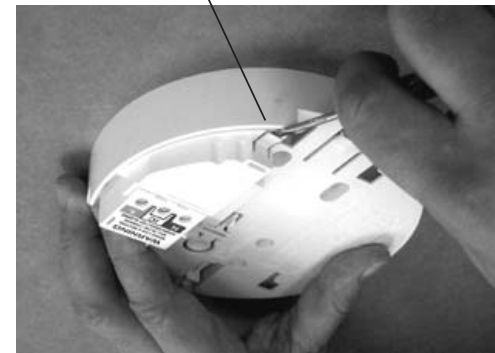

Figure 2
4. Lift off the wiring cover as shown in *Figure 2*.